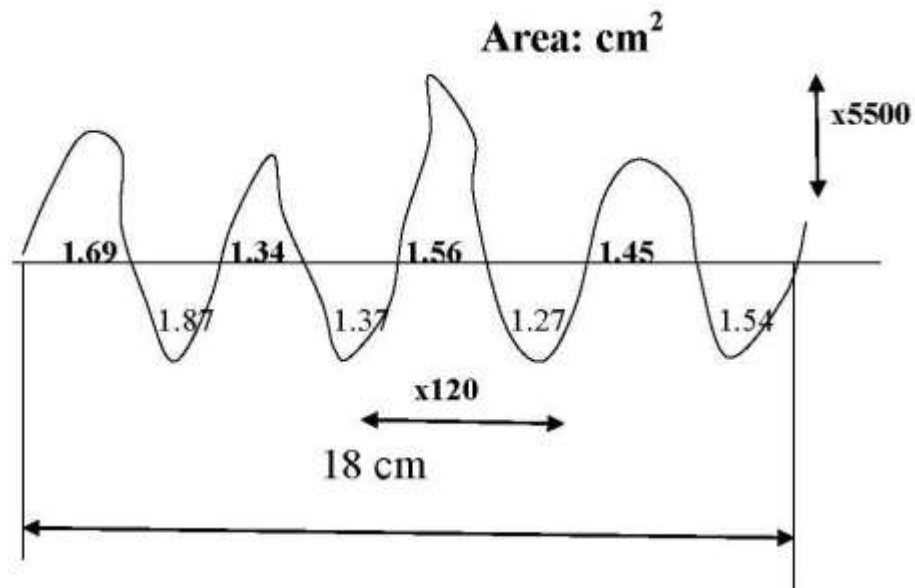

FIGURE 1
- Fig 1 shows the area trace in a roughness test with the attendant magnification. Calculate R_a value for the surface in micrometers. (4 marks)